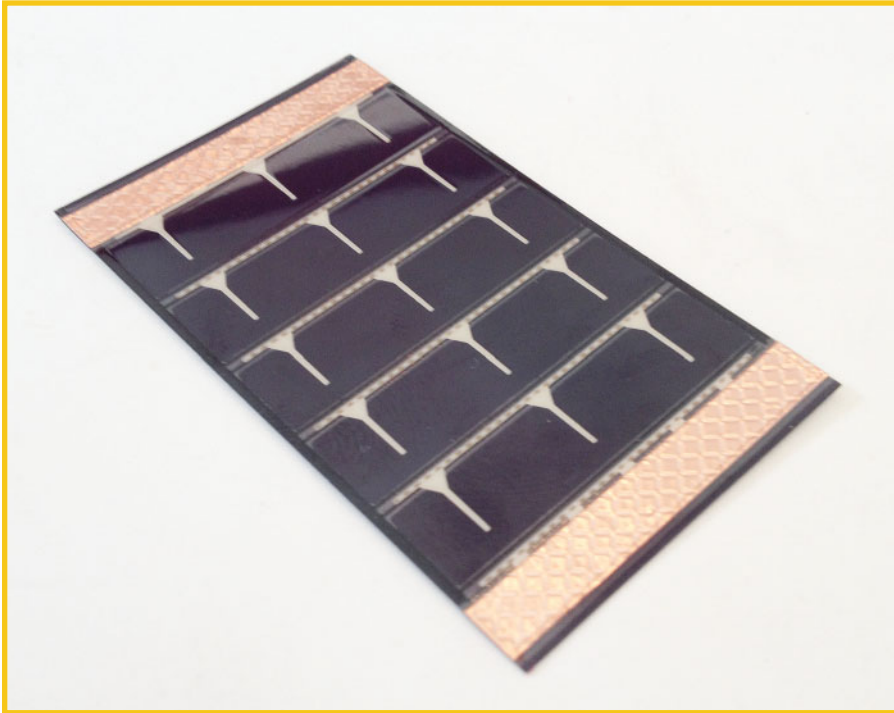

FIGURE 4.4 Flexible-film solar cells are great for attaching to curved surfaces.
Thin, flexible, and durable, this type of solar cell is often used for curved surfaces, such as an radio control (RC) plane's wings. The cell in Figure 4.4 is from Jameco.com (P/N 227985). It measures about 1½"×2½" and is paper thin. It generates 3V and costs about \$4.